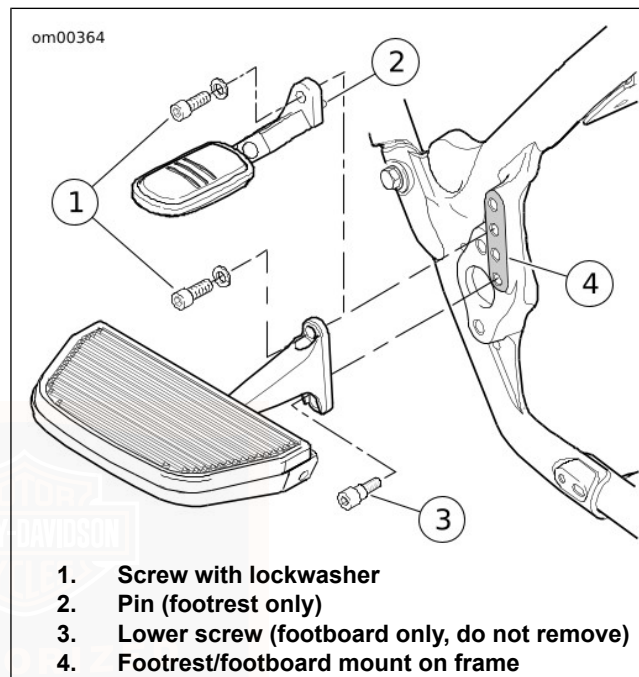

Figure 26. Passenger Footboard/Footrest (typical)
1. See Figure 26. Remove socket screw with lockwasher from top of footboard/footrest bracket. Do not remove lower screw from footboards.